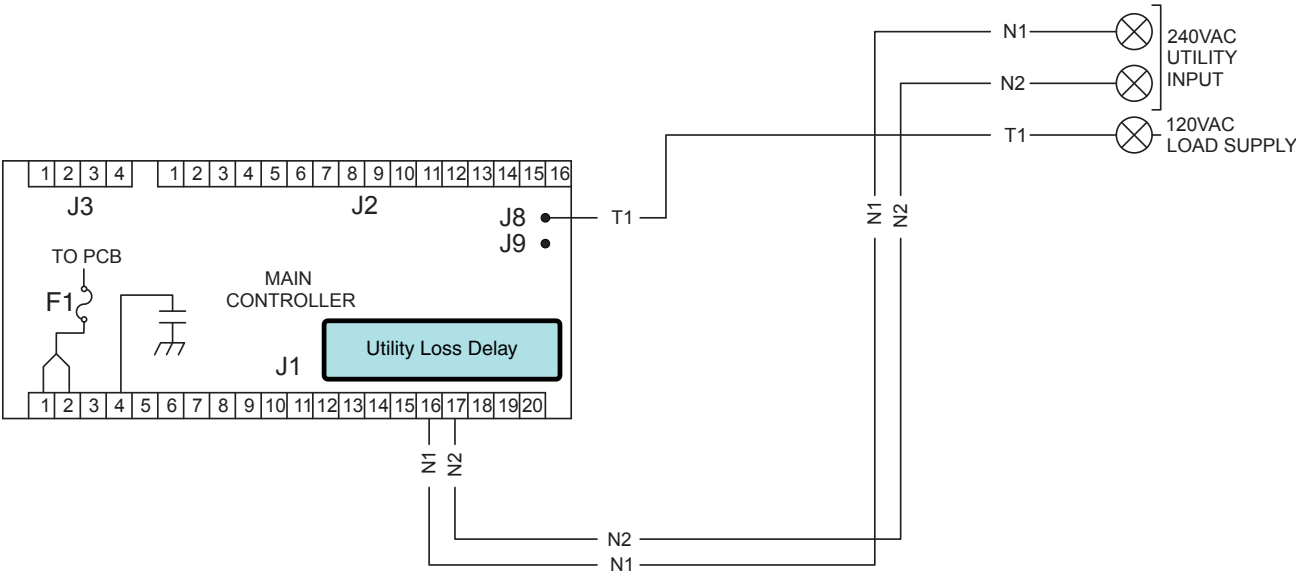

Figure 145.
- In Figure 145, the 10-second timer (factory default, but adjustable from 2-1500 seconds) is still timing and engine cranking has not yet begun.